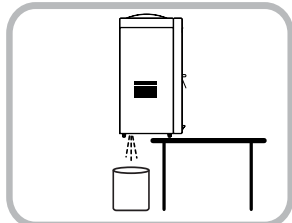

Fig.5
10. Move the unit towards the edge of a table or counter top until the drain cap is exposed from below. Please make sure to have a water container or bucket underneath (Fig. 5).